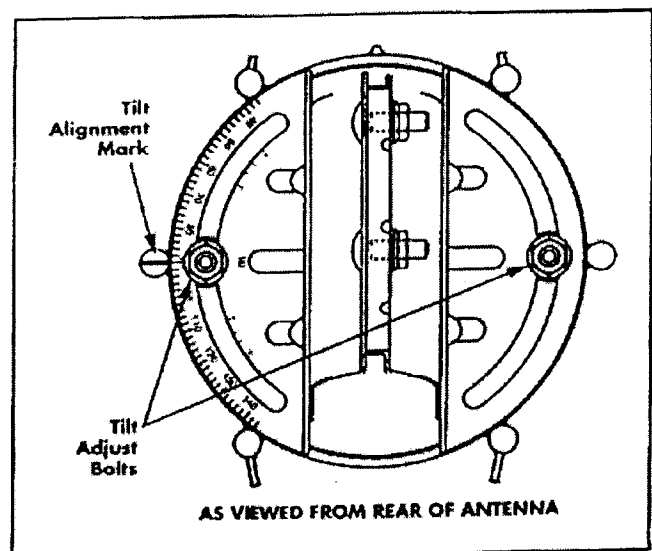

FIGURE 6A
10. Make the **PERMANENT TILT** adjustment per the value listed for your site location found in the AZ-EL Tilt Chart. Be sure both bolts in the slots are 1/3 turn loosened from tight during adjustment and then securely tighten after the desired tilt scale number is aligned with the molded indicator line on the antenna. See Figure 6A.